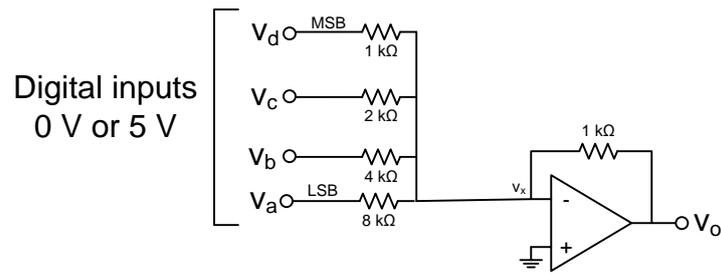

Figure 2: DA converter using summing op-amp.
- (5p) (e) A summing DA converter is shown in Figure 2. Which binary input has been applied to the DA converter if it has an output voltage v_o of 1.9V?